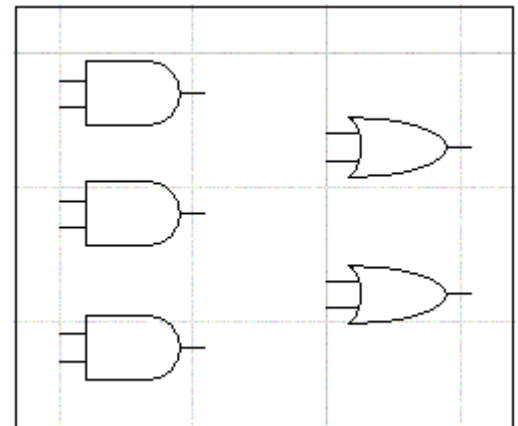

Figure 11: Or Gate Placement
- Connect the output of this inverter to one of the inputs of the last AND gate and connect the other AND gate input to switch A. Your design should now resemble the circuit window in Fig.11